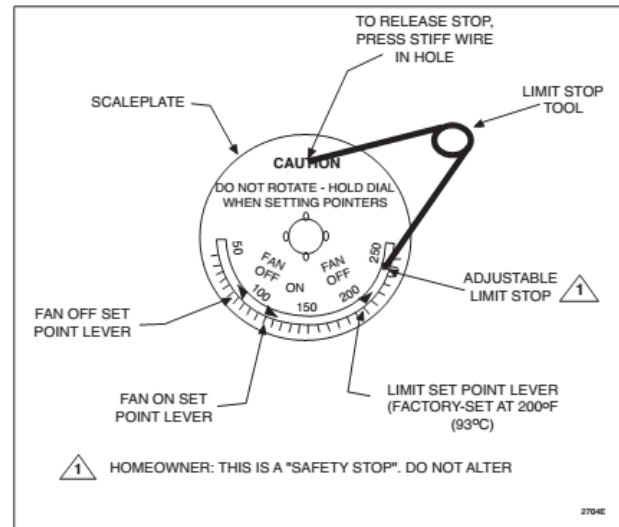

Fig. 10 - Changing the high limit stop.
When adjusting the fan and limit set point levers (Fig. 10), hold the scaleplate dial to keep it from turning and straining the sensing element. Move each indicator lever to the control point recommended by the burner or furnace manufacturer. Use gentle finger pressure.
1. Push the small end of Limit Adjust Tool (196722) through hole in scaleplate (located at caution marking) to depress the stop disc not more than 1/16 in. (1.6 mm) to release stop lock (Fig. 10). Stop disc is on back of scaleplate.
2. While depressing the stop disc, insert the long end of Limit Adjust Tool next to limit stop (Fig. 10) and move the stop to desired setting. *If the L4064 is a replacement control, high limit stop setting should be the same as that of the control being replaced.* (Move stop clockwise ↻ to lower the setting, counterclockwise ↻ to raise it.) Then remove the limit stop adjust tool.